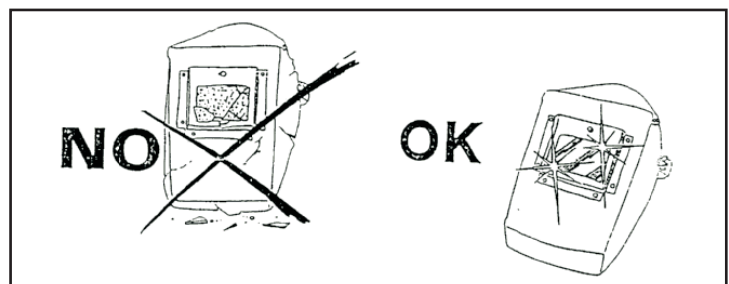

Figure 3
- The colored filter (inactinic filter) must be kept clean at all times. Should it break or deteriorate (Fig. 3), replace it with a new filter, with the same degree of opacity. The colored filter must be protected against impact and welding or cutting projections by means of a transparent glass positioned on the anterior part of the mask. This transparent glass must be replaced whenever visibility is reduced during welding.